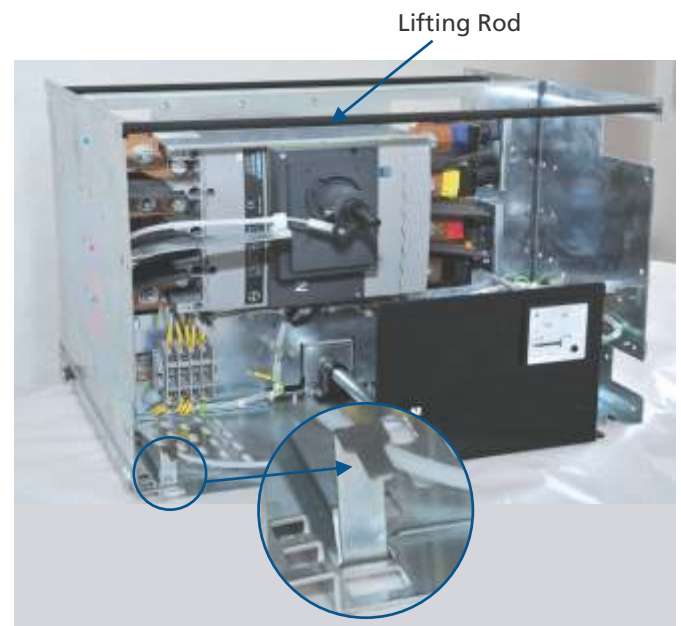

Figure 58 - Lifting of Full width module
2. To rack in, Insert the handle in the slot provided on the front of the module Figure 58.